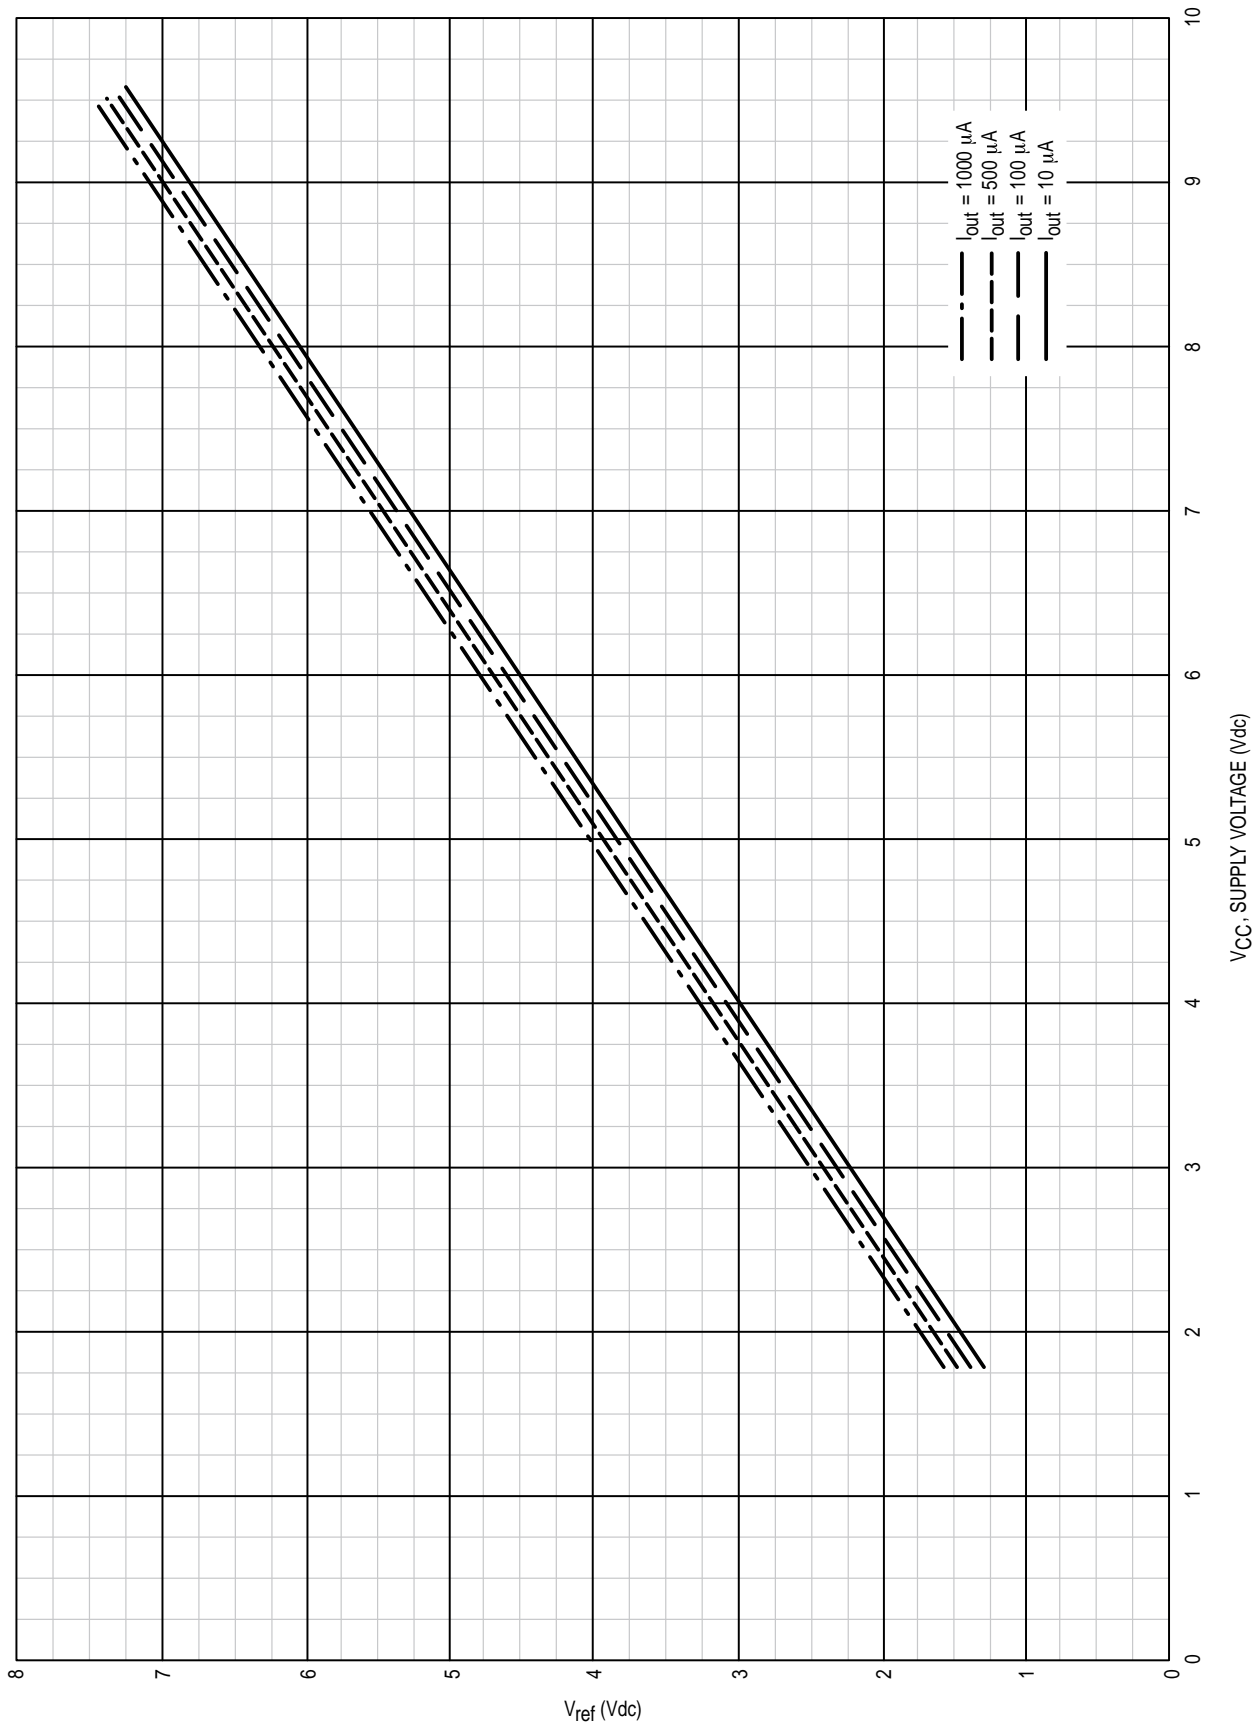

Figure 1.  $V_{ref}$  versus  $V_{CC}$  @  $I_{out}$
Step 3: From Figure 1, read  $V_{ref}$  for  $V_{CC}$  &  $I_{out}$  calculated.
- Step 5: From Figure 1, read  $V_{ref}$  for  $V_{CC}$  &  $I_{out}$  chosen